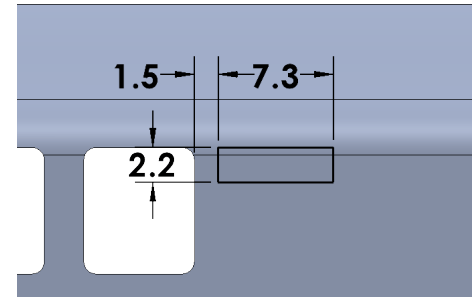

Fig. 70
Step 7. Click **Smart Dimension**  (S) on the Sketch toolbar.
Step 8. Add dimensions, **Fig. 70**.